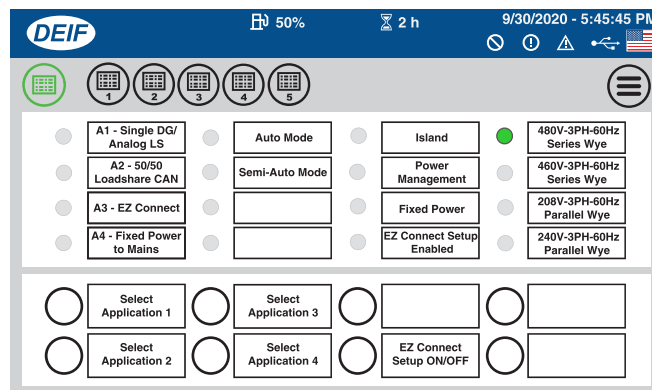

Figure 118. Main AOP Screen
2. Verify that the **Main AOP screen** (Figure 118) is displayed.
3. If the Main AOP screen (Figure 118) is not displayed, press the **Main AOP button** (Figure 119).